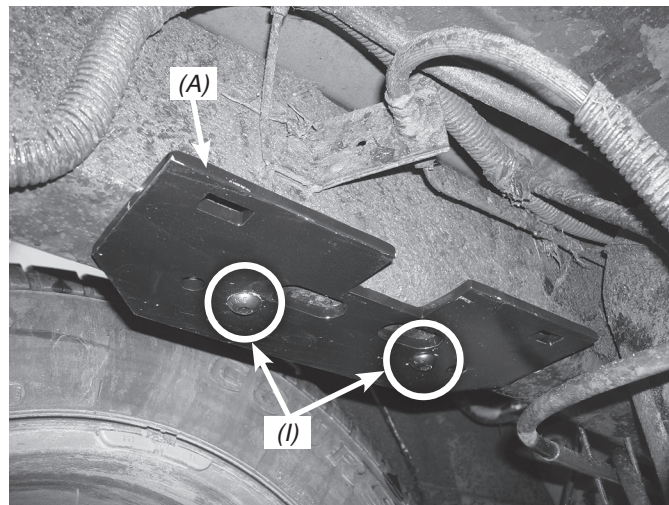

fig. 4
*The slot in the frame goes inboard towards the inside of the vehicle (Fig. 4). Repeat this on the opposite side.*